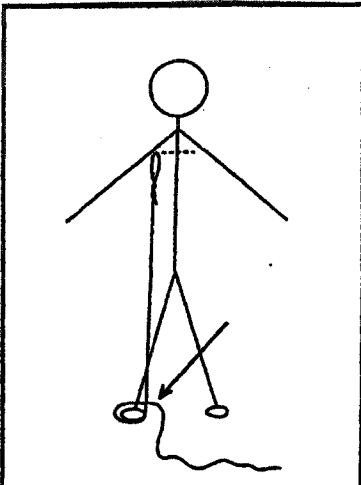

Fig. 5: Locating Back of Prusik
2. While standing, position the top of the Figure of Eight on a Bight at the chest/nipple landmark. From there, run the cord down to the ground and make one loop around your foot. Locate the point on the cord approximately 3-5 cm past where the loop crosses itself around your foot (Fig. 5). Pinch that point between your thumb and forefinger—being careful not to lose that location—and undo the wrap around your foot. This location on the cord will become the back, or bridge, of the Prusik Hitch upon Itself.